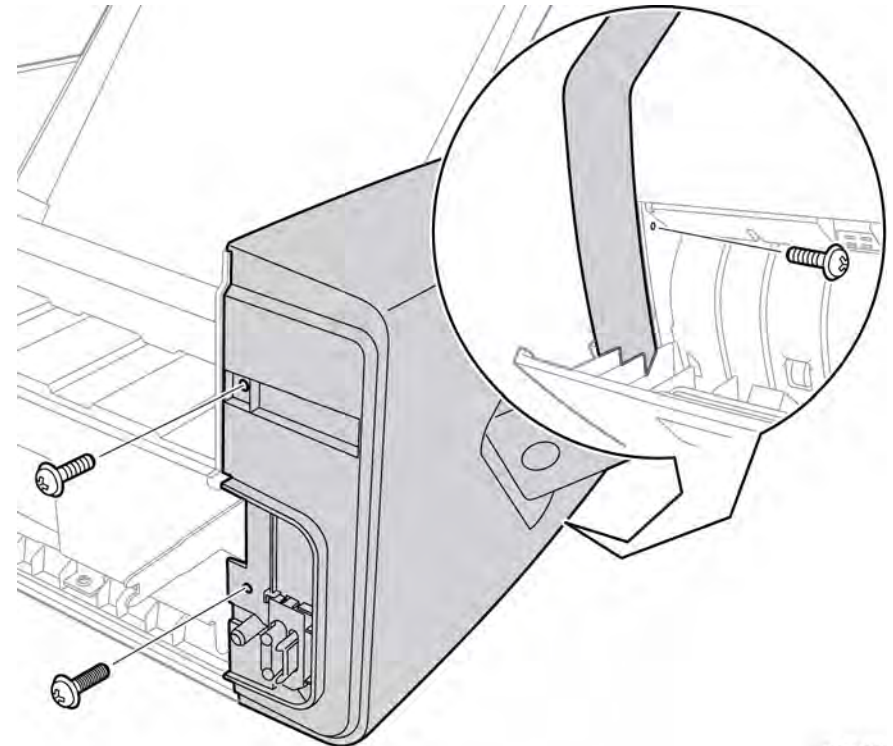

Figure 1 Remove the right cover screws
2. Remove 3 screws (1 metal, 2 plastic) that secure the cover, Figure 1.